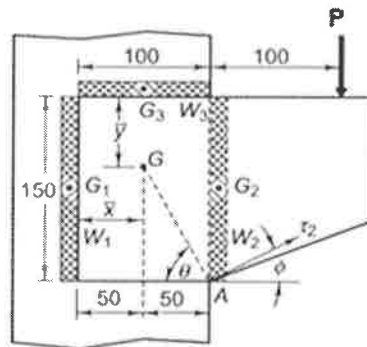

Fig.1
8. An eccentrically loaded bracket is welded to the support as shown in Fig.1. The permissible shear stress for the weld material is 55 N/mm^2 and the size of weld in 10mm. load is static. Determine how much force to be applied on the bracket.